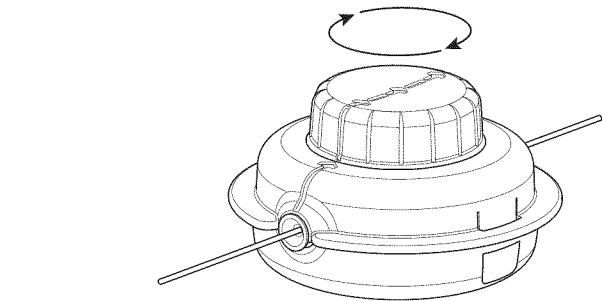

Fig. 9
5. Turn the bump knob clockwise to wind the line until about 5 inches (12.7 cm) protrude from each side of the cutting head (Fig. 9). **DO NOT** push the bump knob down while winding the line.